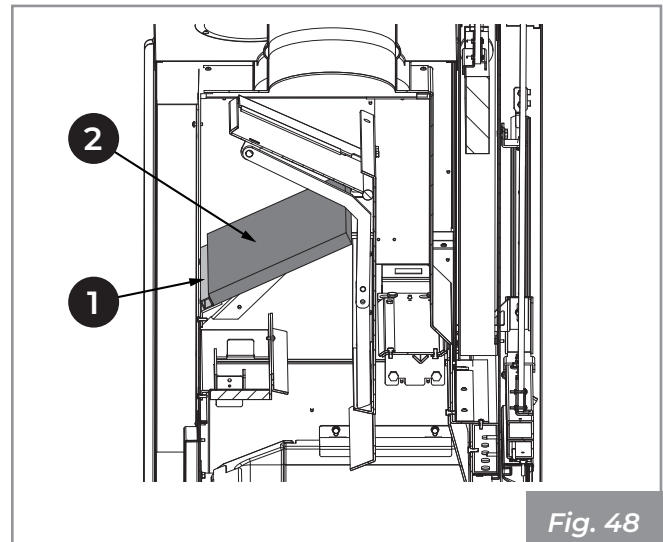

Fig. 48
- 8) Remove and extract the panels (2) Fig. 48).
9) Slide out and extract the spacer (1).